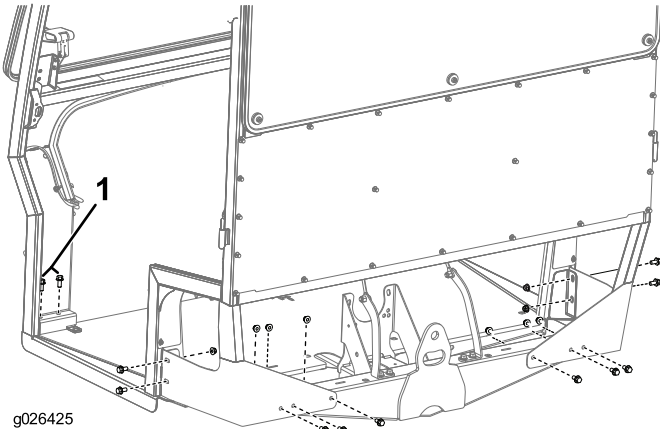

Figure 6
2. Secure the frame to the machine using 10 bolts (3/8 x 3/4 inch), 10 nuts (3/8 inch), and 4 bolts (3/8 x 7/8 inch) as shown in Figure 6.